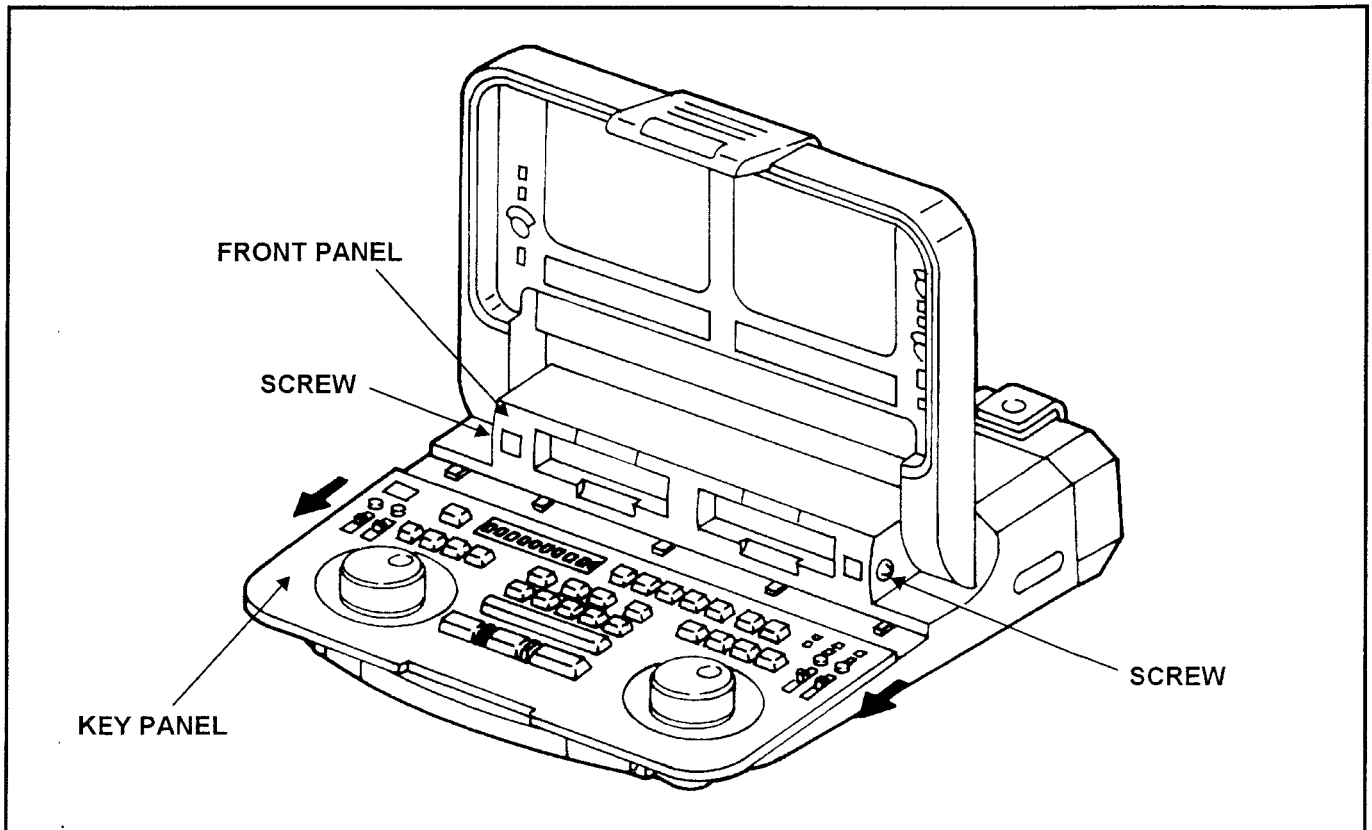

Figure 6
6. Unscrew the 2 screws at left and right side, then remove the Front Panel as shown in Figure 6.